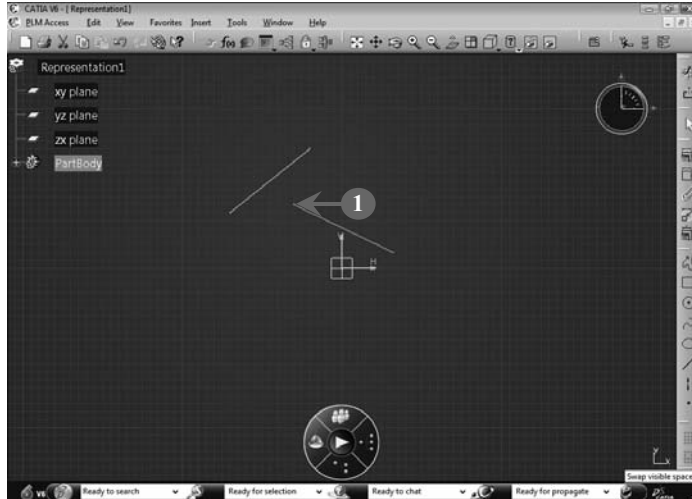
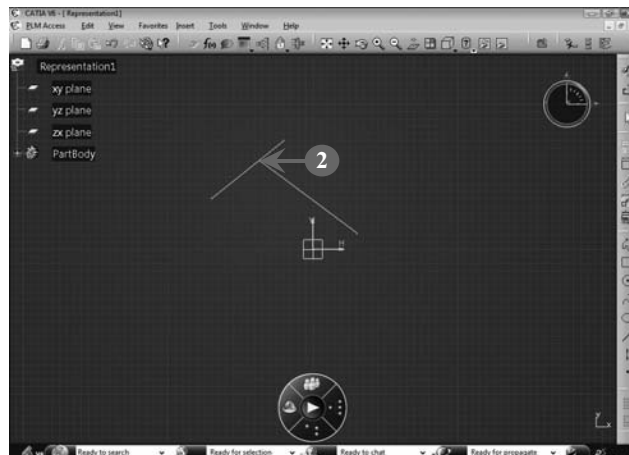

FIGURE 2.52
FIGURE 2.53
1. *Select* the line that you want to extend, as shown in **Figure 2.52**:
2. *Click and drag* the tip of the selected line (Figure 2.52). The line is extended, as shown in **Figure 2.53**:
In Figure 2.53, the selected part of the line is extended in such a manner that the extended line is perpendicular to the other line. After learning the extending operation, we next learn how to corner a sketch.